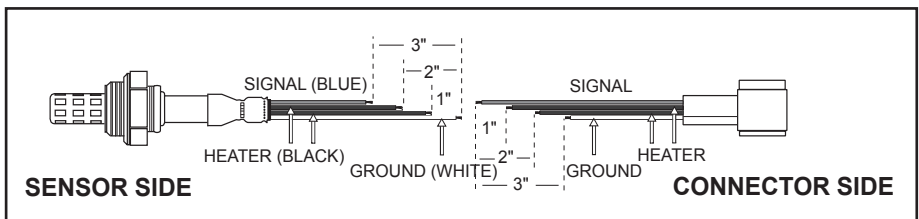

Fig. 1
6. With the two sensors laid out side by side, cut off the original sensor so overall length will be 3"- 4" longer than before. (See Fig. 1) This will allow connections to be made at evenly spaced intervals so the heat shrink tube can fit over the butt connections and the finished overall length to match the original.